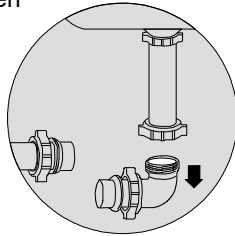
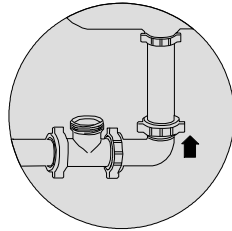

FIG. 8
FIG. 9
2. Slip S.J. nut and beveled washer over both ends of cut tube, then insert the 3-way repair tee in the following manner: Loosen the S.J. nut on the horizontal waste ell where it joins the vertical tailpiece. (See Fig. 8) Remove the short "ell" piece by pulling down the tailpiece. (Fig. 8), then put cut ends of ell into tee and tilt vertical end back up over tailpiece and re-secure S.J. nut. Rotate tee so that the side outlet is facing straight up, then firmly tighten both S.J. nuts to tee. (See Fig. 9)